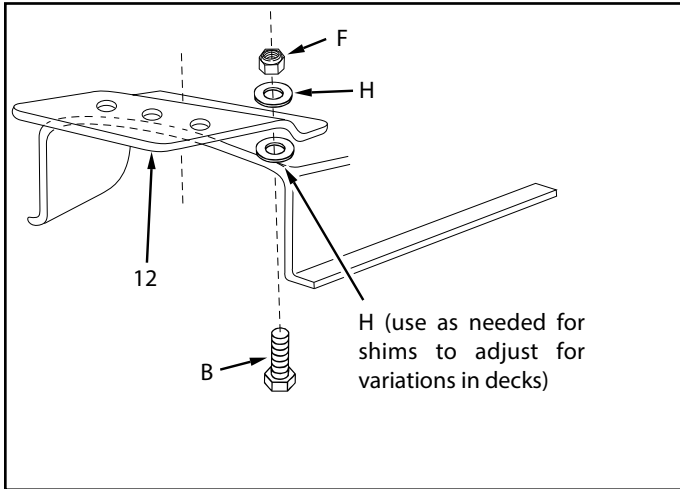

FIGURE 18
- Assemble the adapter bracket to the deck using two 5/16" x 1-1/4" hex bolts, (B) 5/16" flat washers (H) and 5/16" nylock nuts (F). See figure 18.
NOTE: It may be necessary to use extra 5/16" flat washers to shim under the bracket next to the deck surface. Ten extra washers have been furnished as shims. See figure 18.